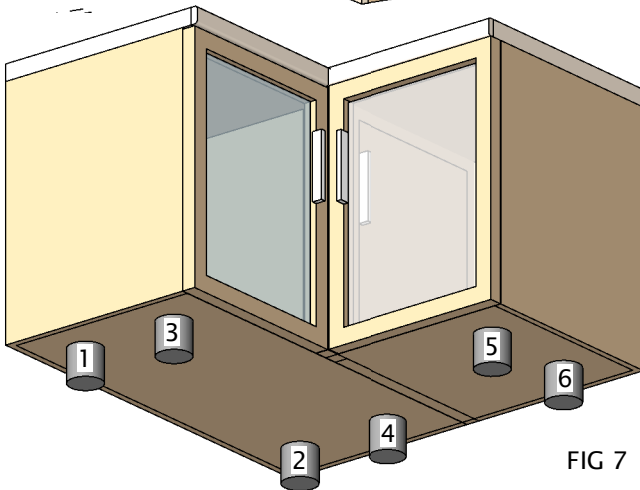

FIG 7
To Create Legs, adjust the parameter **LEGS VISIBILITY** on which controls & switches the visibility on of the Legs as shown in Fig 7
**LEGS VISIBILITY** is a Integer visibility parameter for each leg, so each number will switch on the visibility as shown in Fig 7
and the result will be Fig 7